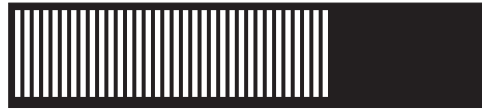

Figure 103. Hardware boot display
- The hardware boot display, shown in Figure 103, is displayed continuously.